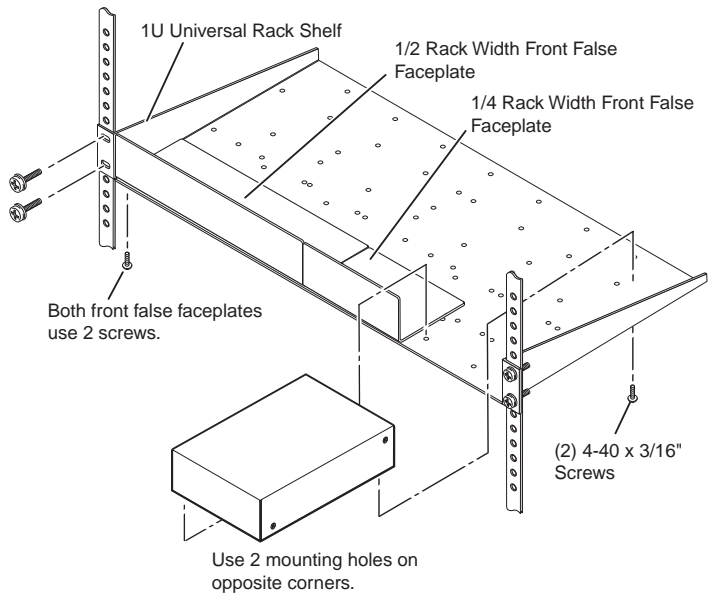

Figure 2-1 — Rack mounting
2. Align the unit on the shelf and secure it to the shelf with two 4-40 x 3/16" screws in diagonally opposite corners (see figure 2-1 below).